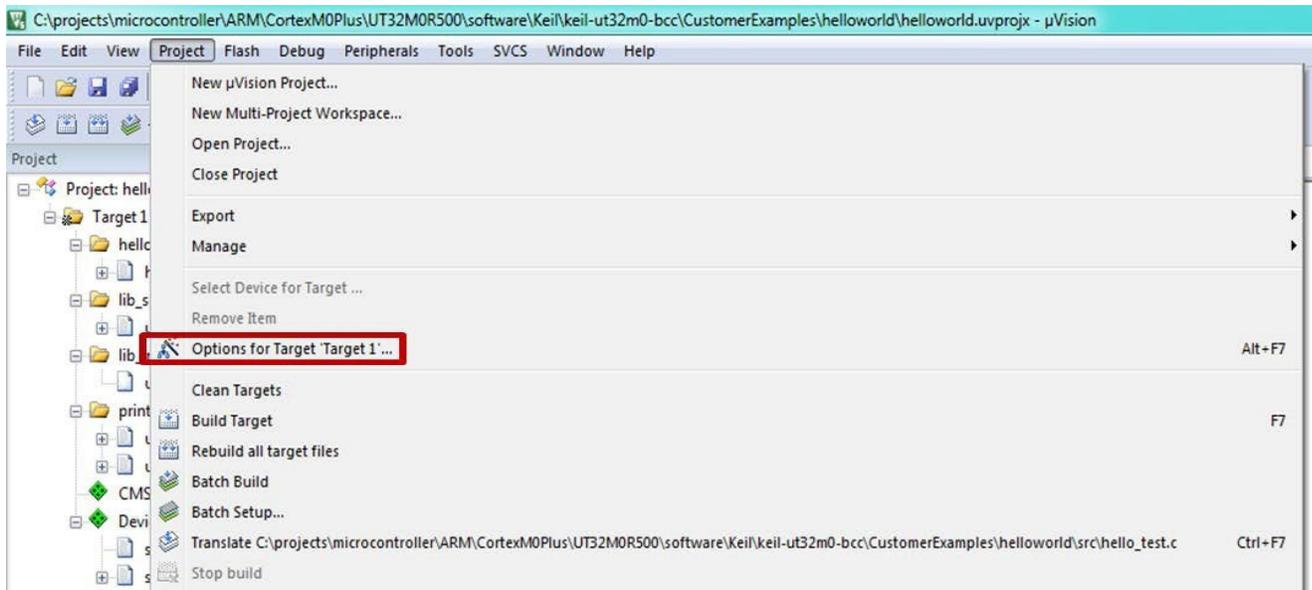

Figure 1: Project Setup
2. From the Project menu, select Options for Target 'Target 1' ... (Figure 1).